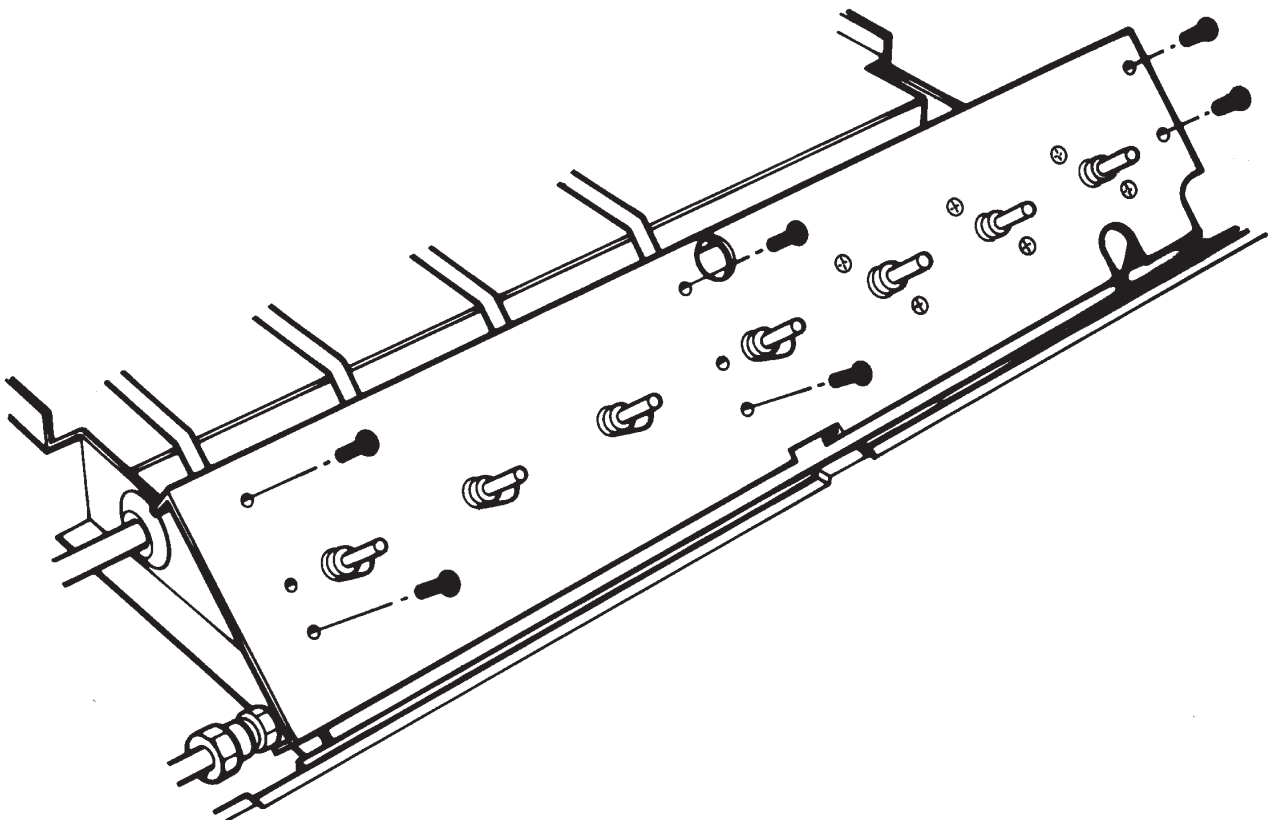

Fig. 18
3. Remove controls mounting plate by removing the 6 screws. (As shown in Fig. 18).